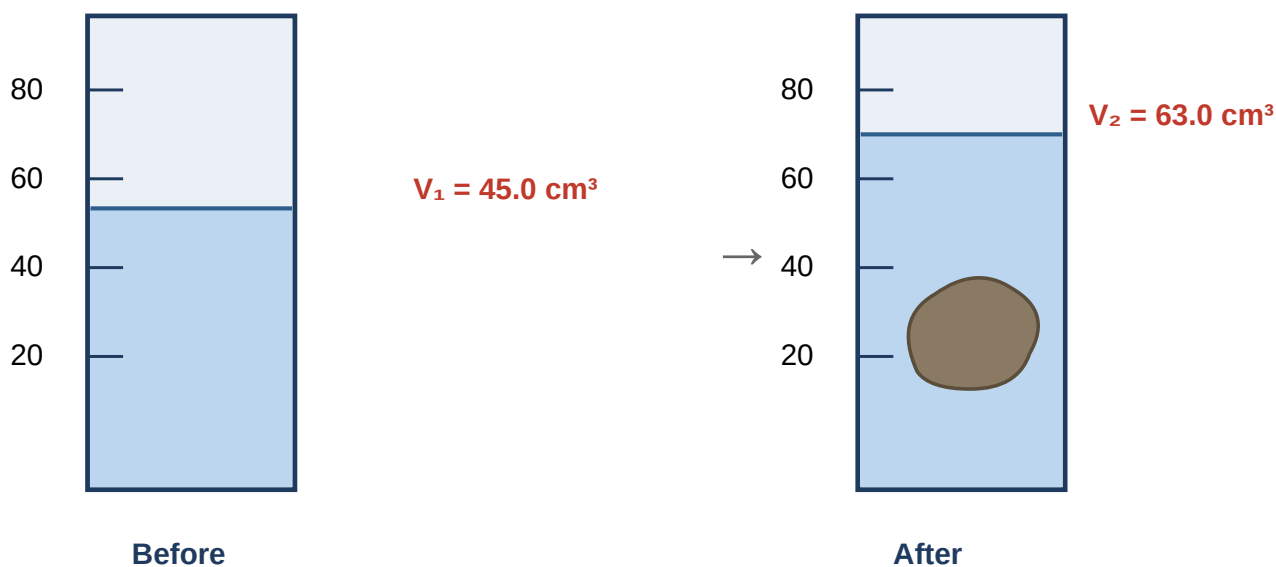

Fig. 1.1 — water level before and after the stone is lowered in. Balance reads mass of stone = 47.25 g.
2. Using the readings in Fig. 1.1, determine the volume of the stone. [1]